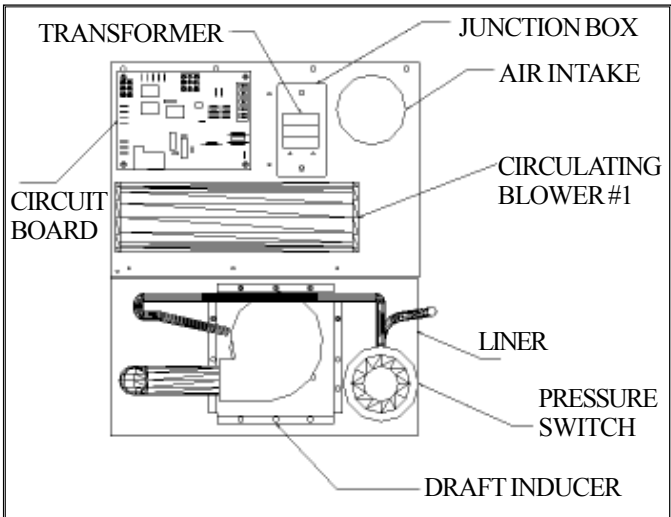

FIGURE 18-A (For WOW253 / WOW254)
- H.) Disconnect air pressure switch tubing from draft inducer. See Figure 18-A.
- I.) Remove draft inducer. (See Figure 18-A).